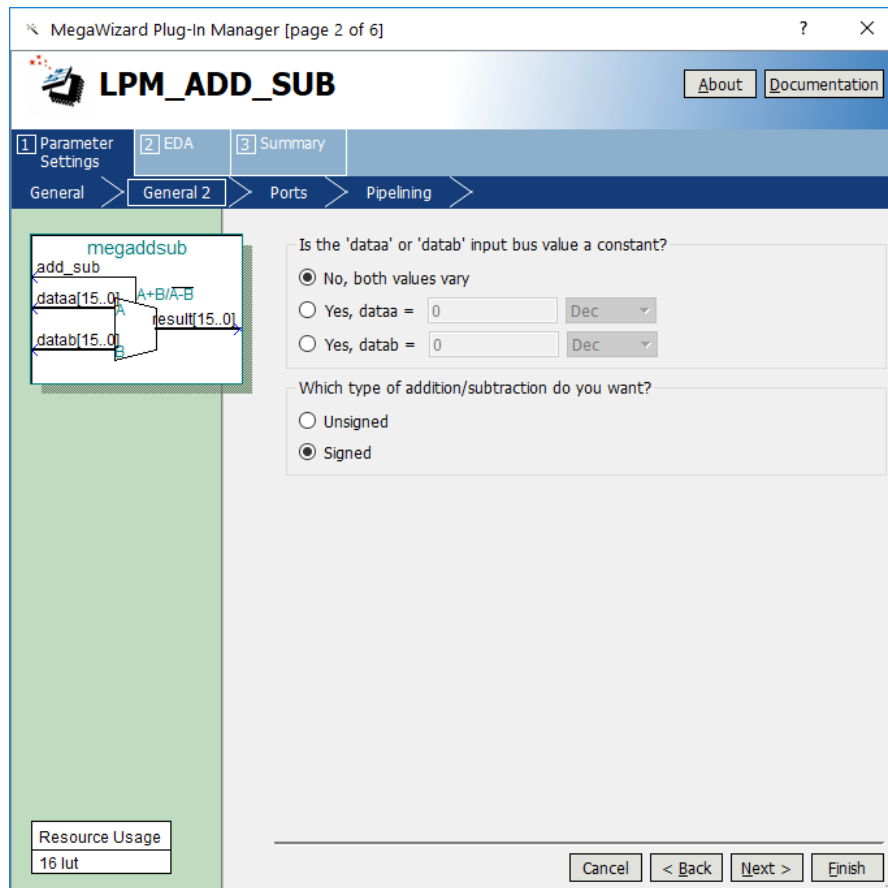

Figure 7. Further specification of inputs.
- In the box in Figure 7, specify that the values of both inputs may vary and select Signed for the type of addition/subtraction. Click Next.